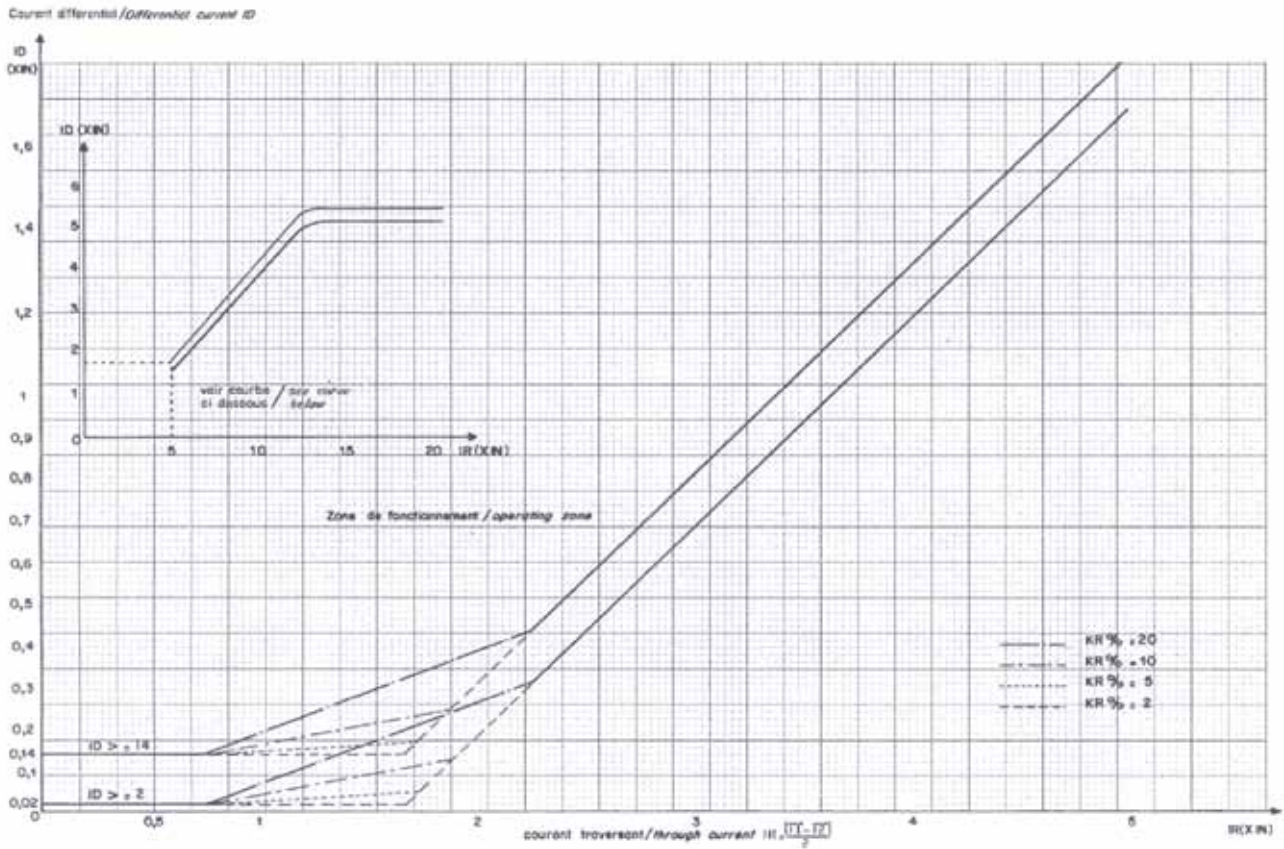

Figure 4 - DTM7033 - Courbes de fonctionnement / Operating characteristics
- differential setting	according to curve figure 4